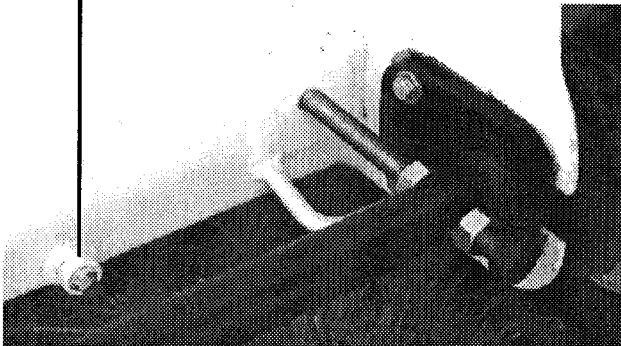

FIGURE 28
1. Remove the oil drain plug. See **Figure 28**, and drain a the oil. Remove the oil cap to ensure a better flow.
1. With the engine stopped, unscrew and remove the old oil filter, see **Figure 28**.
To obtain proper chain tension, adjust the 4 tensioning nuts, (2 each side) to move the front axle forward or backwards. See **Figure 28**.